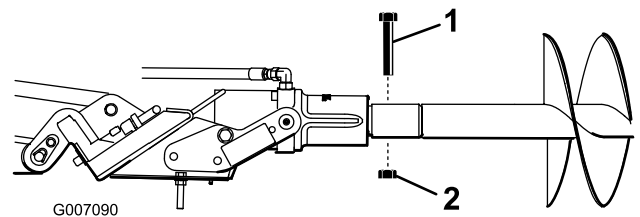

Figure 5
8. Secure the auger to the drive head with a bolt (7/8 x 4-1/2 inch) and nut (7/8 inch) (Figure 5).